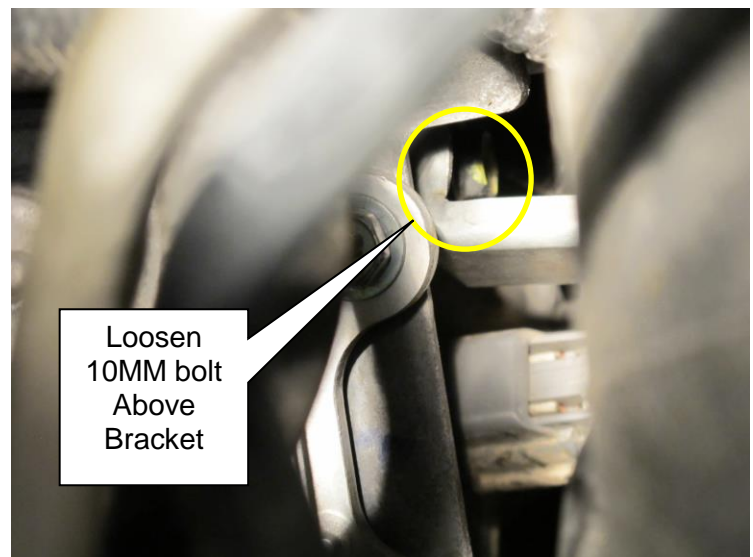

Figure 9
- Using a 10MM socket **loosen** bolt above bracket to loosen bracket and create clearance to remove high pressure connection eye bolt (Figure 9).